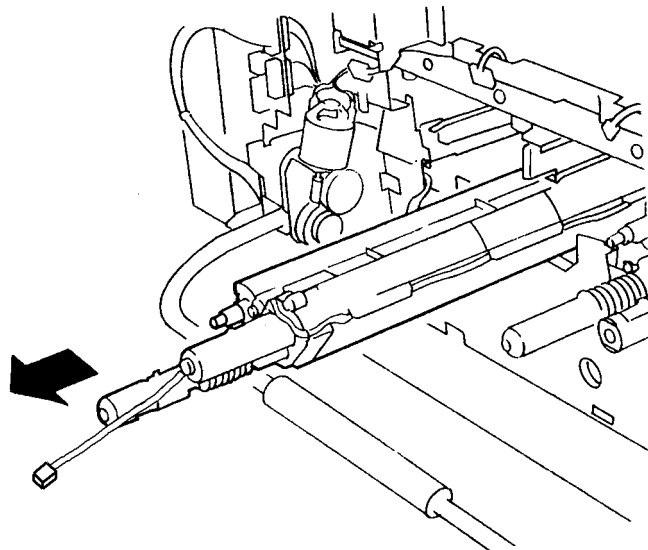

Figure 1 Removing Developer Housing
11. Remove Developer Housing (Figure 1).